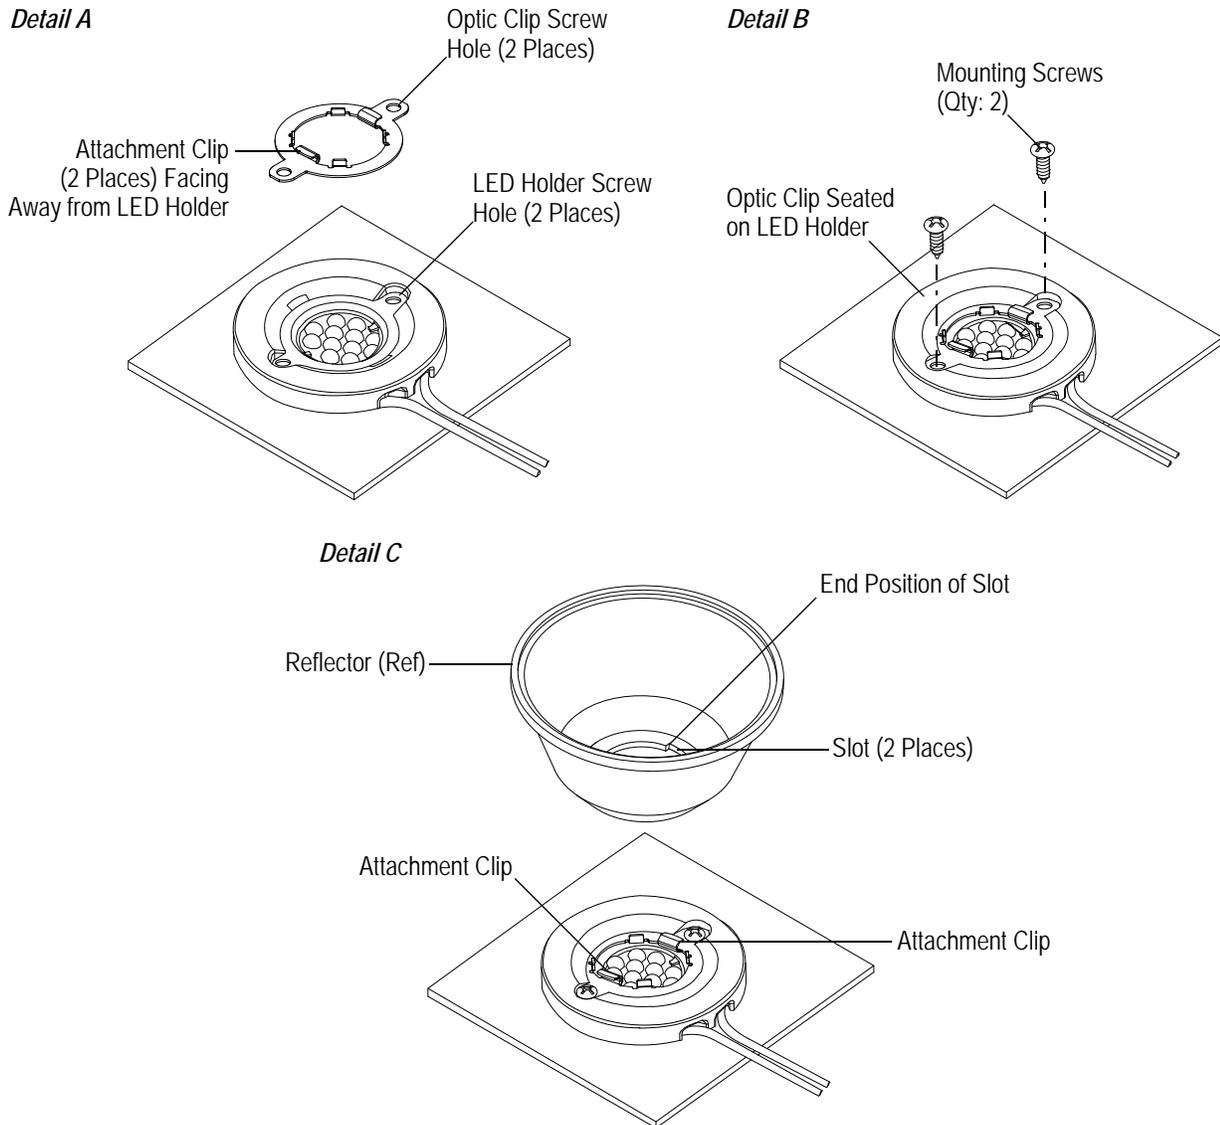

Figure 2
1. The optic clip must be placed over the LED holder with the attachment clips facing away from the LED holder and the screw holes aligned with the screw holes of the LED holder. See Figure 2, Detail A.
2. The optic clip and LED holder must be secured to the cooling device using the mounting screws. Each mounting screw should be tightened to a torque between 0.4 and 0.6 Nm [3.5 and 5.3 in.-lb]. See Figure 2, Detail B.
3. The slots of the reflector must be placed over the attachment clips of the optic clip, then the reflector must be secured to the optic clip by rotating the reflector clockwise until it stops (approximately 33 degrees). See Figure 2, Detail C.